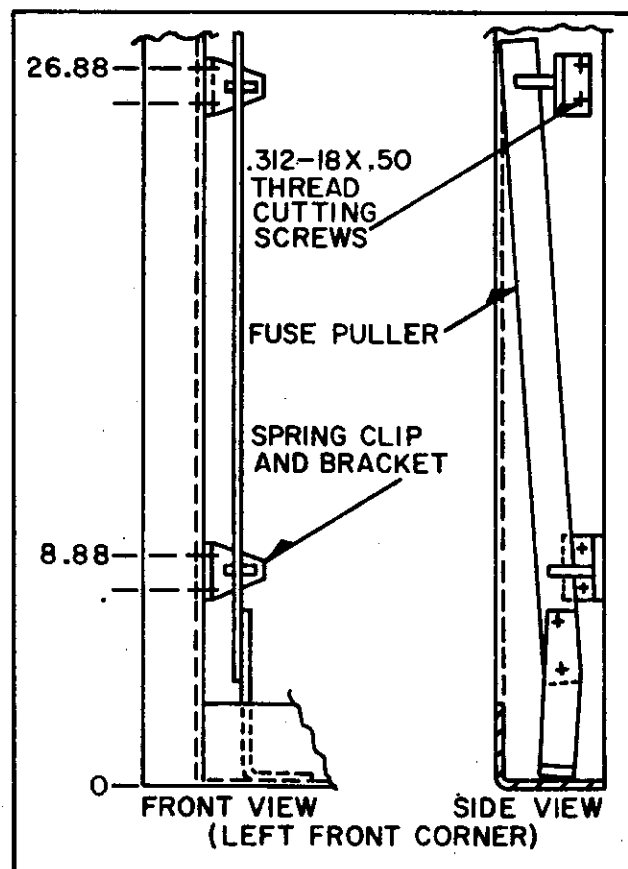

FIG.1
- 3) The fuse puller (Style 6391D55G01) is to be stored on the left hand outermost upright when not in use. It is held in place by two spring clips and angle brackets. Locate and attach these brackets as shown in FIG. 1. Use existing .226 dia. holes in upright.